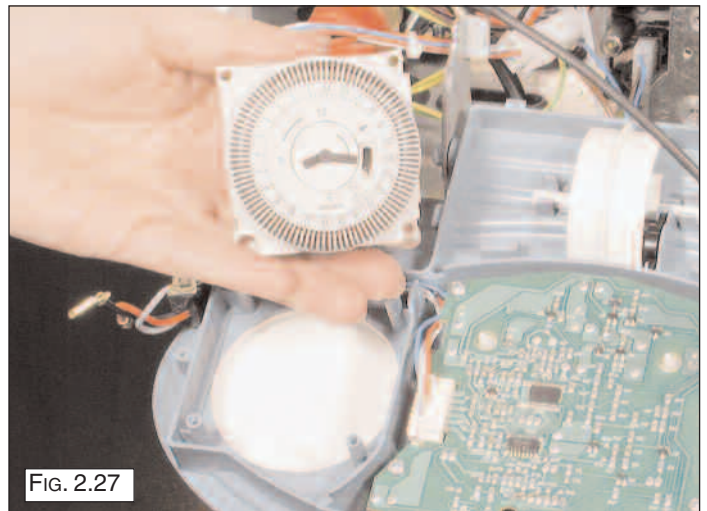

FIG. 2.27
4. Remove the time clock (Fig. 2.27).